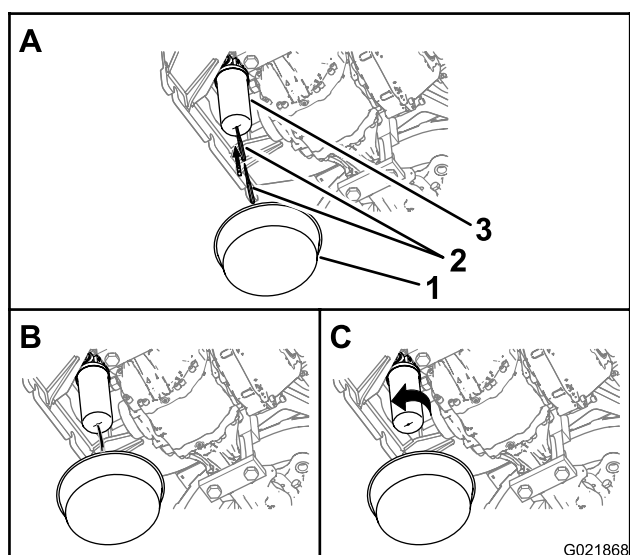

Figure 96
Note: You can access the hydraulic-return filter from underneath the rear of the machine (Figure 96).
1. Place a container under the hydraulic-pressure filter (Figure 96).
2. Puncture the bottom of the hydraulic-pressure filter and allow the residual hydraulic fluid to drain in the container (Figure 96).
3. Rotate the hydraulic-return filter counterclockwise and remove the filter (Figure 96).